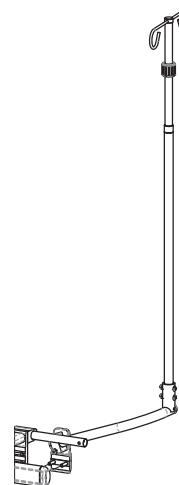

Figure 14.43: IV pole mount
1. Loosen the "Headrest Height Adjustment Set Screw" and slide the head rest assembly upwards until it is free of the chair (see Figure 14.43).